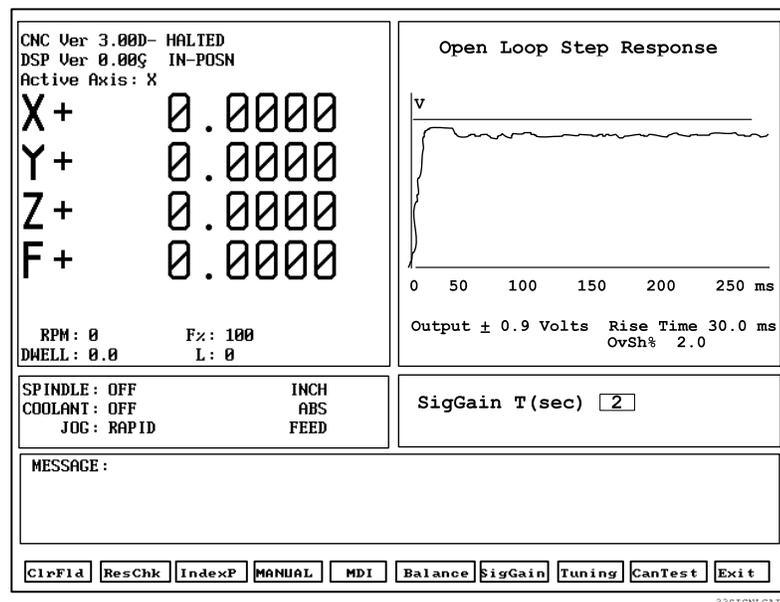

Figure 9, Signal Gain (SigGain) Screen
3. Refer to **Figure 9, Signal Gain (SigGain) Screen**. Look at the Prompt Area of the MST screen. Enter a timed delay at the **T(sec)** entry field (two seconds is usually adequate). The graph in the graphics area plots machine motion as follows: